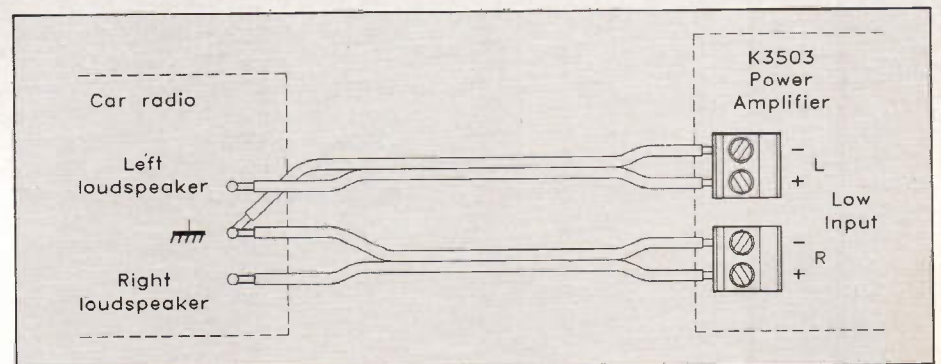
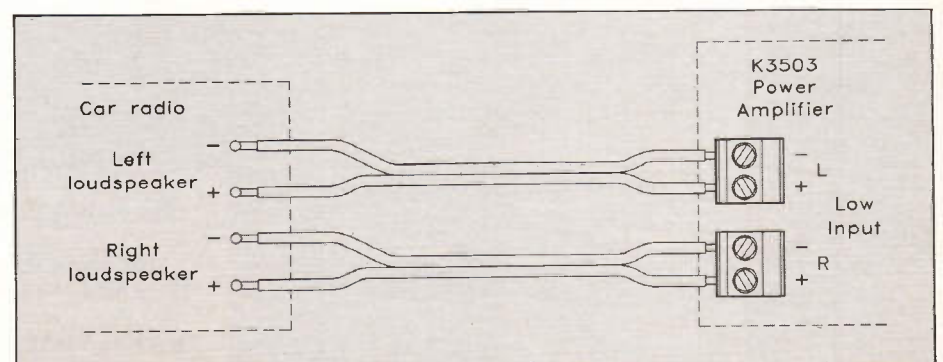

Figure 5. Common-earth loudspeaker outputs connected to the K3503.
Figure 6. Separate-earth loudspeaker outputs connected to the K3503.
1. Connect the loudspeaker outputs of the radio to the connector marked LOW using figure-8 cable. If the speaker outputs share a common earth, follow Figure 5, otherwise connection should be made according to Figure 6.